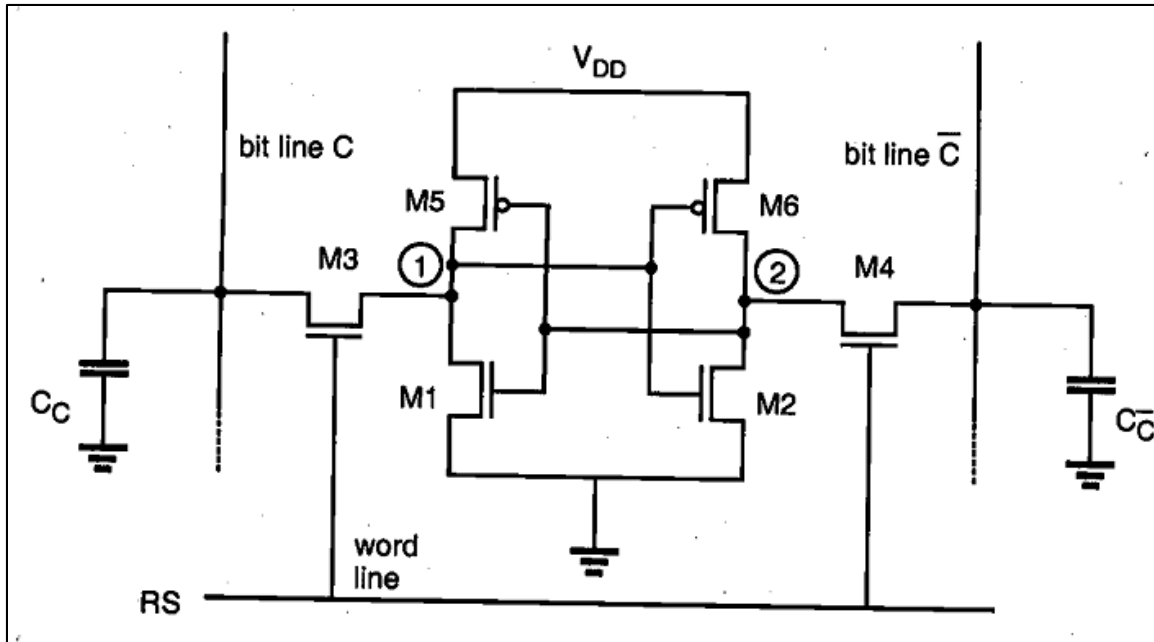

Figure 5
- 4) Consider the CMOS SRAM cell shown in Figure 5. Transistors M1 and M2 have (W/L) values of 4/4. Transistors M3 and M4 have (W/L) values of 2/4. M5 and M6 are to be sized such that the state of the cell can be changed for  $V_c < 0.5$  V. Assuming that M5 and M6 are the same size, calculate the required (W/L).